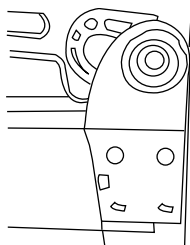

Figure 4
- Ensuring the doors are properly aligned, attach the Hinge Base included in the Trim Kit using removed screws 3 and 4 (Fig 4). For Right Hand models, use 'Hinge Base Right Assy' and for Left Hand models, use 'Hinge Base Left Assy'